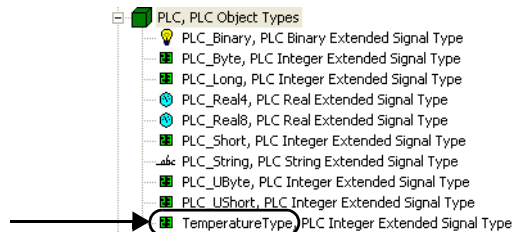

Figure 3. Created Integer Signal Type
7. Expand the PLC branch object to view the created signal type, see also Figure 3.